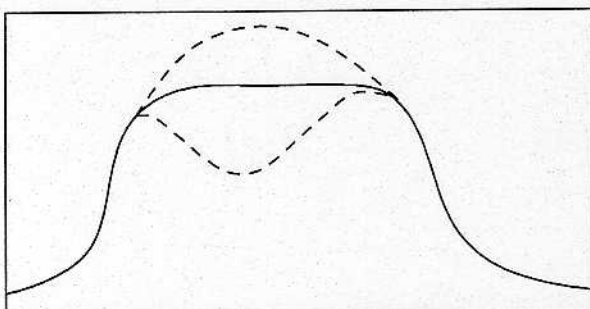

Fig. 18
- g) Adjust the output coupling to raise the centre portion of the frequency response to give the best flat overall response. Generally, moving the output loop towards  $90^\circ$  will raise the centre and towards  $0^\circ$  will achieve the opposite. This operation may also affect the bandwidth slightly, and this should be readjusted using the inter-coupling loop to obtain the required bandwidth. Adjustments of the primary cavity door will shift the frequency of the bandpass response and adjustments of the secondary cavity door will tilt the bandpass response (see Figs. 18 to 21).
- g) Adjust the output coupling to raise the centre portion of the frequency response to give the best flat overall response. Generally, moving the output loop towards 90° will raise the centre and towards 0° will achieve the opposite. This operation may also affect the bandwidth slightly, and this should be readjusted using the inter-coupling loop to obtain the required bandwidth. Adjustments of the primary cavity door will shift the frequency of the bandpass response and adjustments of the secondary cavity door will tilt the bandpass response (see Figs. 18 to 21).